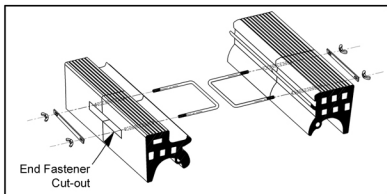

Figure 1
- 1 Layout the rubber Interface end to end and fasten together with Sure-Lock end fasteners. The Sure-Lock plate and hex nuts are attached within the cut-outs. (Fig. 1)